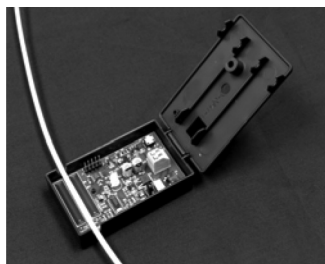

Figure 3
1. Remove the screw from the cover of the safety control shutoff. Open the hinged cover and install the shutoff onto the furnace blower common wire. (See Figure 3.)